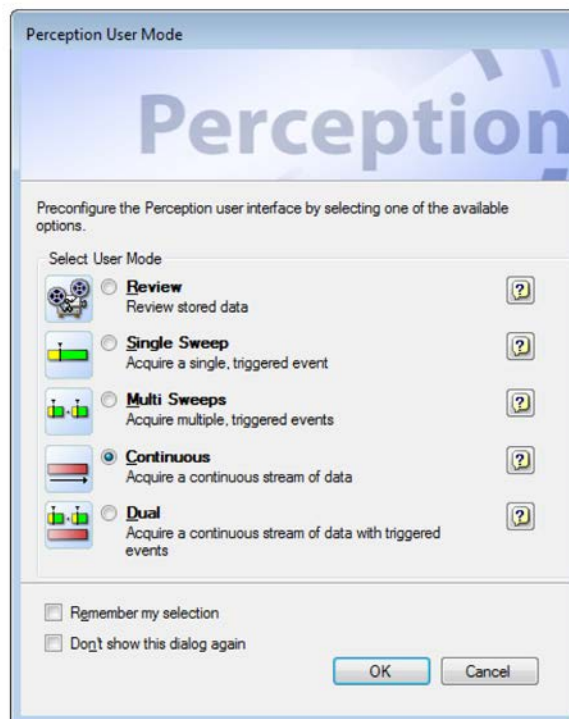

Figure 8.2: Perception User Mode dialog
- 2 The user mode selection dialog appears (see Figure 8.2):